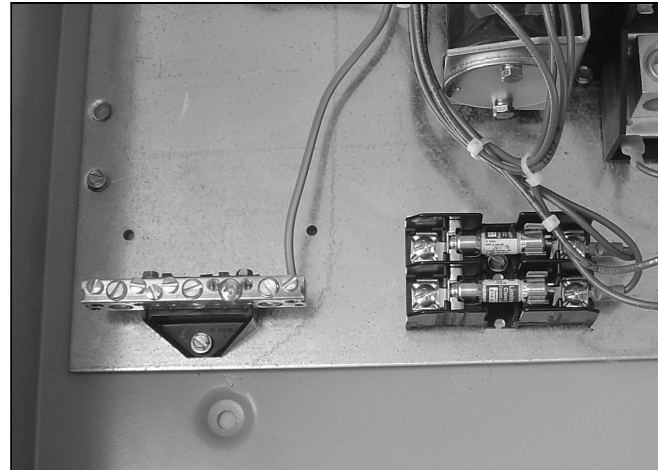

Figure 79. TVSS Green / Yellow Wire Connected to the Ground Bar.
Step 14: Secure the green / yellow TVSS wire to a receptacle on the ground bar using a blade screwdriver (see Figure 79).